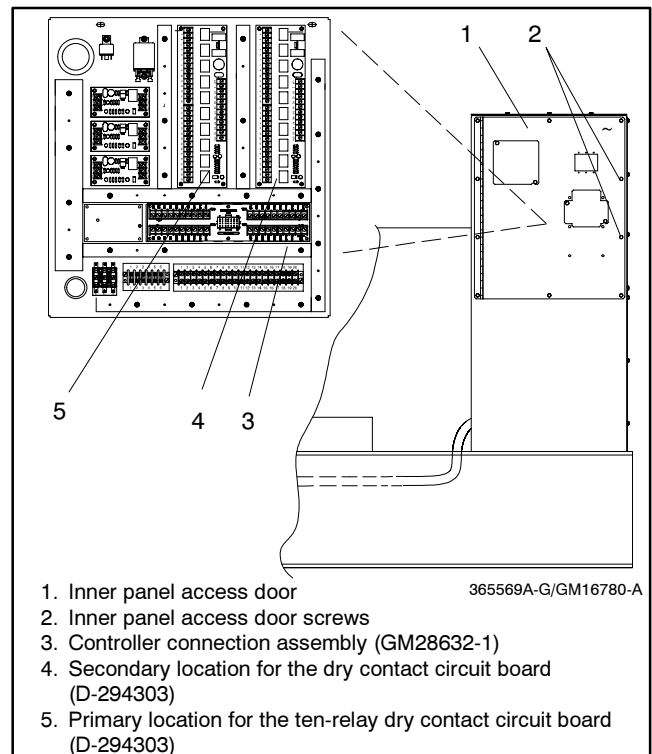

Figure 4 Terminal Block Bracket Mounting in Junction Box (450–2000 kW)
2.3.3 Attach the controller connection assembly (GM13984) to the junction box bracket studs using six spacers (X-712-9) and nuts (X-70-12). Place the spacers between the controller connection assembly and the mounting bracket. See Figure 4 for the mounting location.